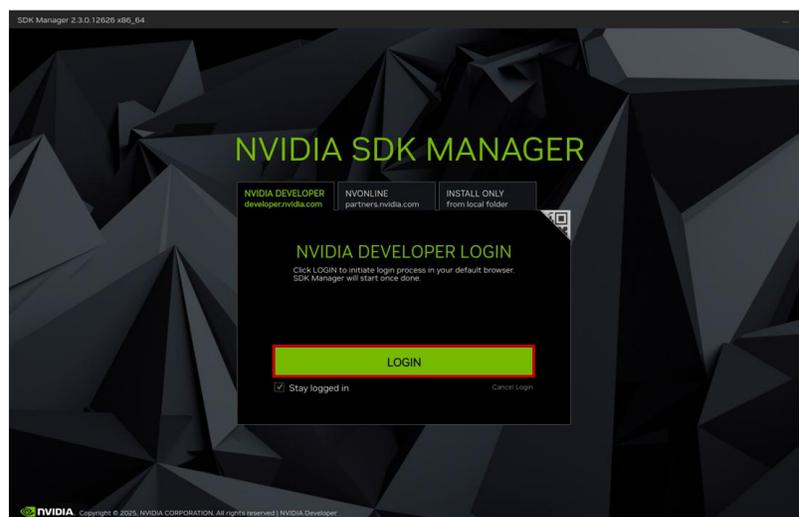

Figure 6.15. SDK Manager Login
- After the SDK Manager is launched, click Login as shown in Figure 6.15. A browser window will open, where you will sign in using your NVIDIA Developer account credentials